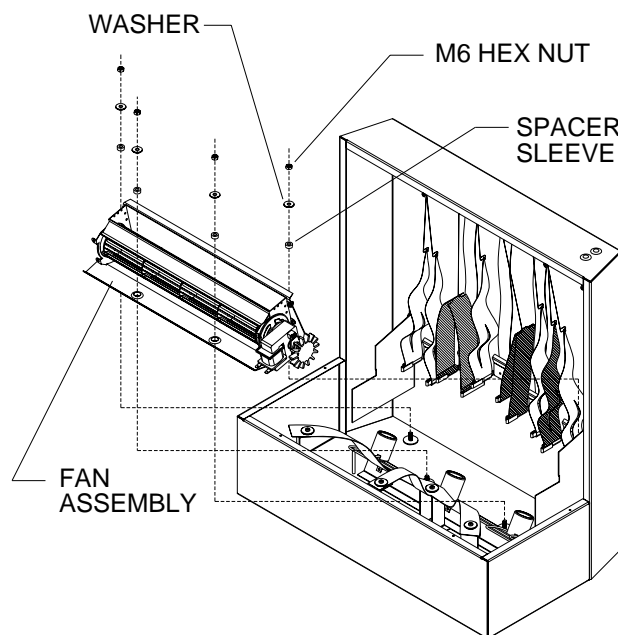

Figure 37 - Removing Fan Assembly
3. Remove 4 hex nuts and washers located on the blower mount at the base of the cabinet. See **Figure 37**.